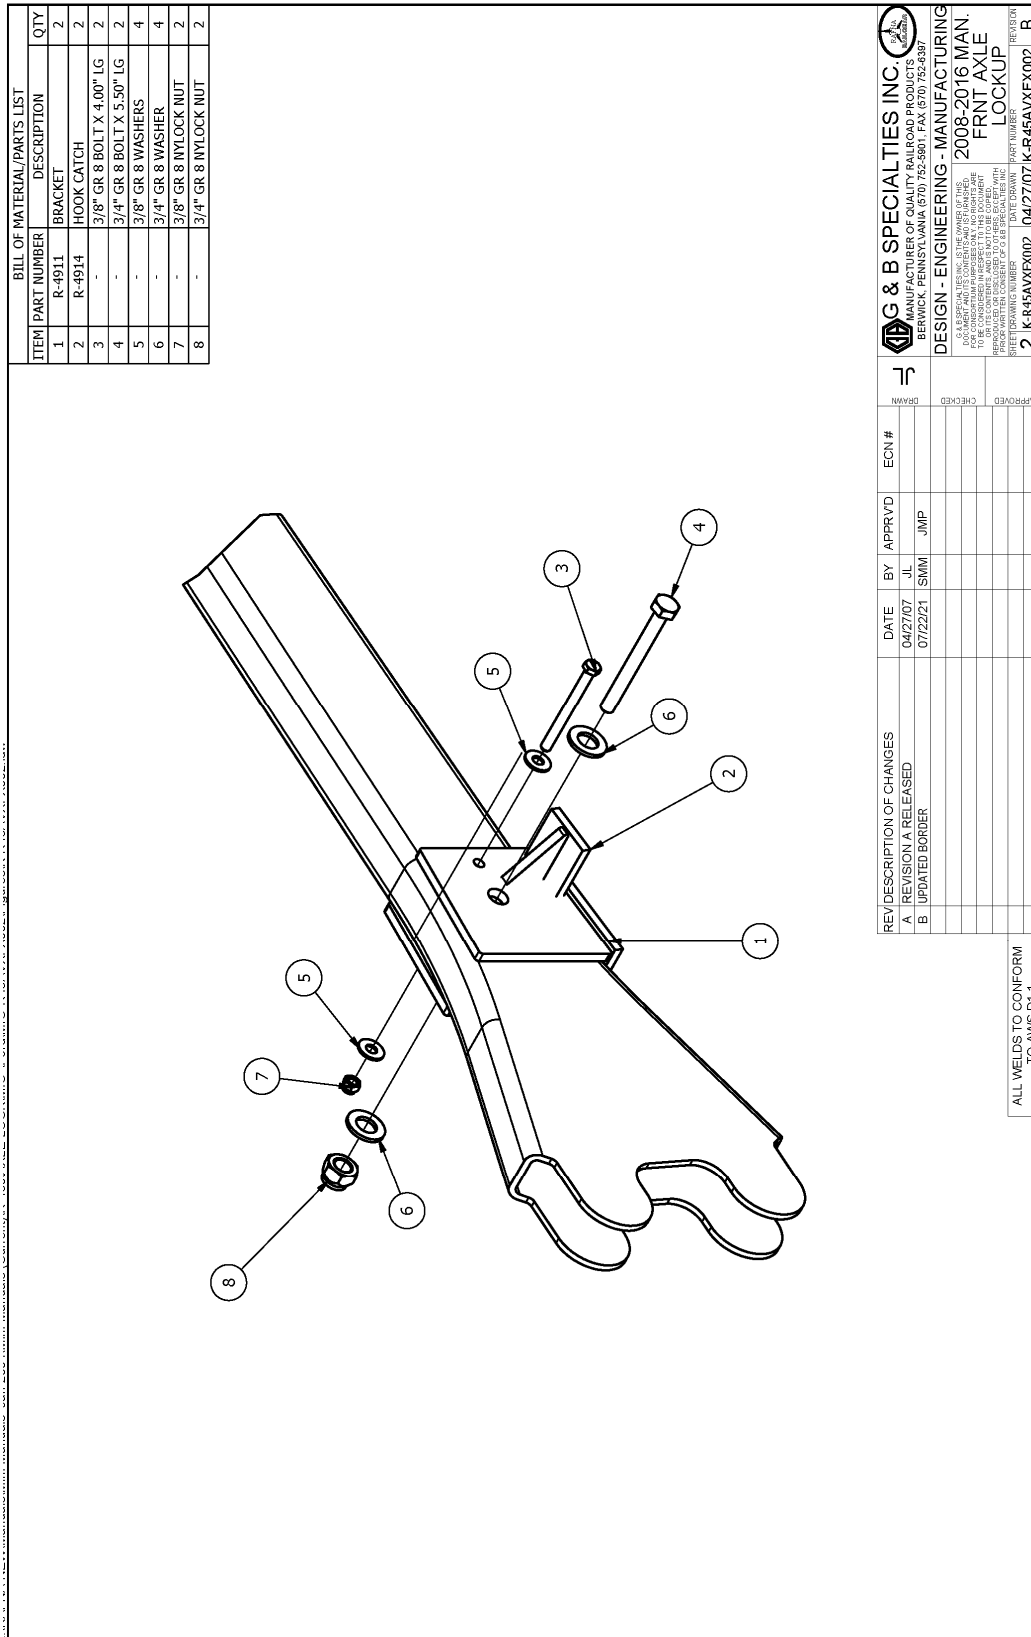

Figure 2
2. Position each bracket on each vehicle suspension arm as shown. The larger hole in the mounting brackets should align with the existing hole in each of the suspension arms. Mark and drill a 13/32" hole into each of the suspension arms for 3/8" bolts. Fasten each bracket to each suspension arm using one 3/4" x 5" long bolt, two 3/4" washers, and one 3/4" nut, and one 3/8" x 4" long bolt, two 3/8" washers and one 3/8" nut as shown. Do not torque these fasteners. Tighten them only sufficiently to hold the bracket on the suspension arm without deforming the suspension arm. Use (Fig 2 & Fig 4), for reference and parts identification.